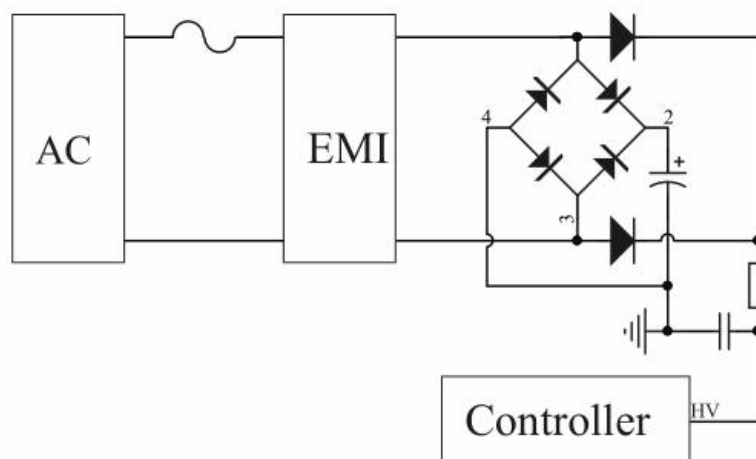

Figure1: High Voltage Start-up Circuit
DK0xxG contains multi-function high voltage (HV) pin. As shown in Figure 1, to achieve fast startup and to reduce standby power consumption, DK0xxG contains a HV startup circuit. Meanwhile, HV pin can accurately monitor the input voltage and enable the internal X-capacitor discharge circuit to